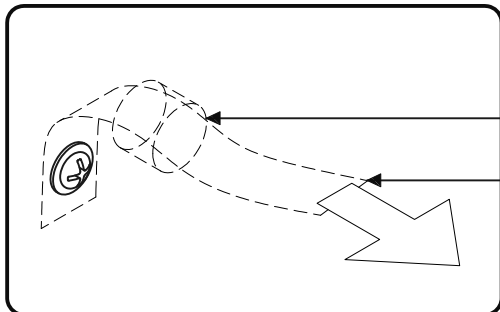

Figure 9
Move unit back into place and insert Tipover Restraint into unit through hole in Back Panel (N). (See Figure 9)